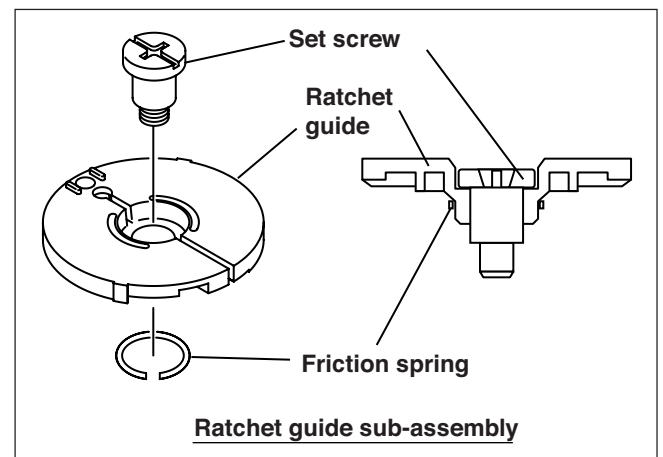

Fig. 13-6
-2 Mount the ratchet guide assembly, taking care not to move the ratchet. (Fig.13-6)